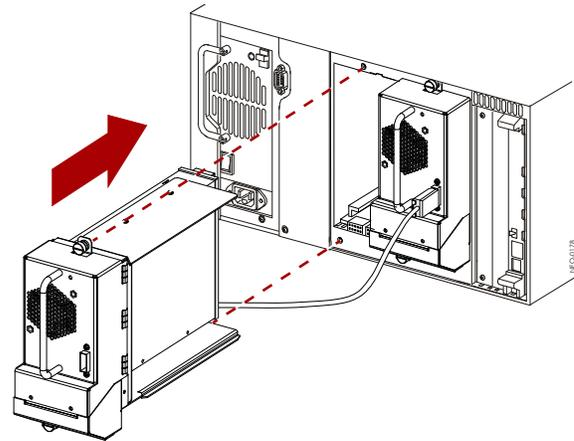

Figure 5. Installing a Drive (NEO 2000E)
2. Slowly push the drive assembly into the **drive bay** until it seats firmly against the backplane (Figure 5).